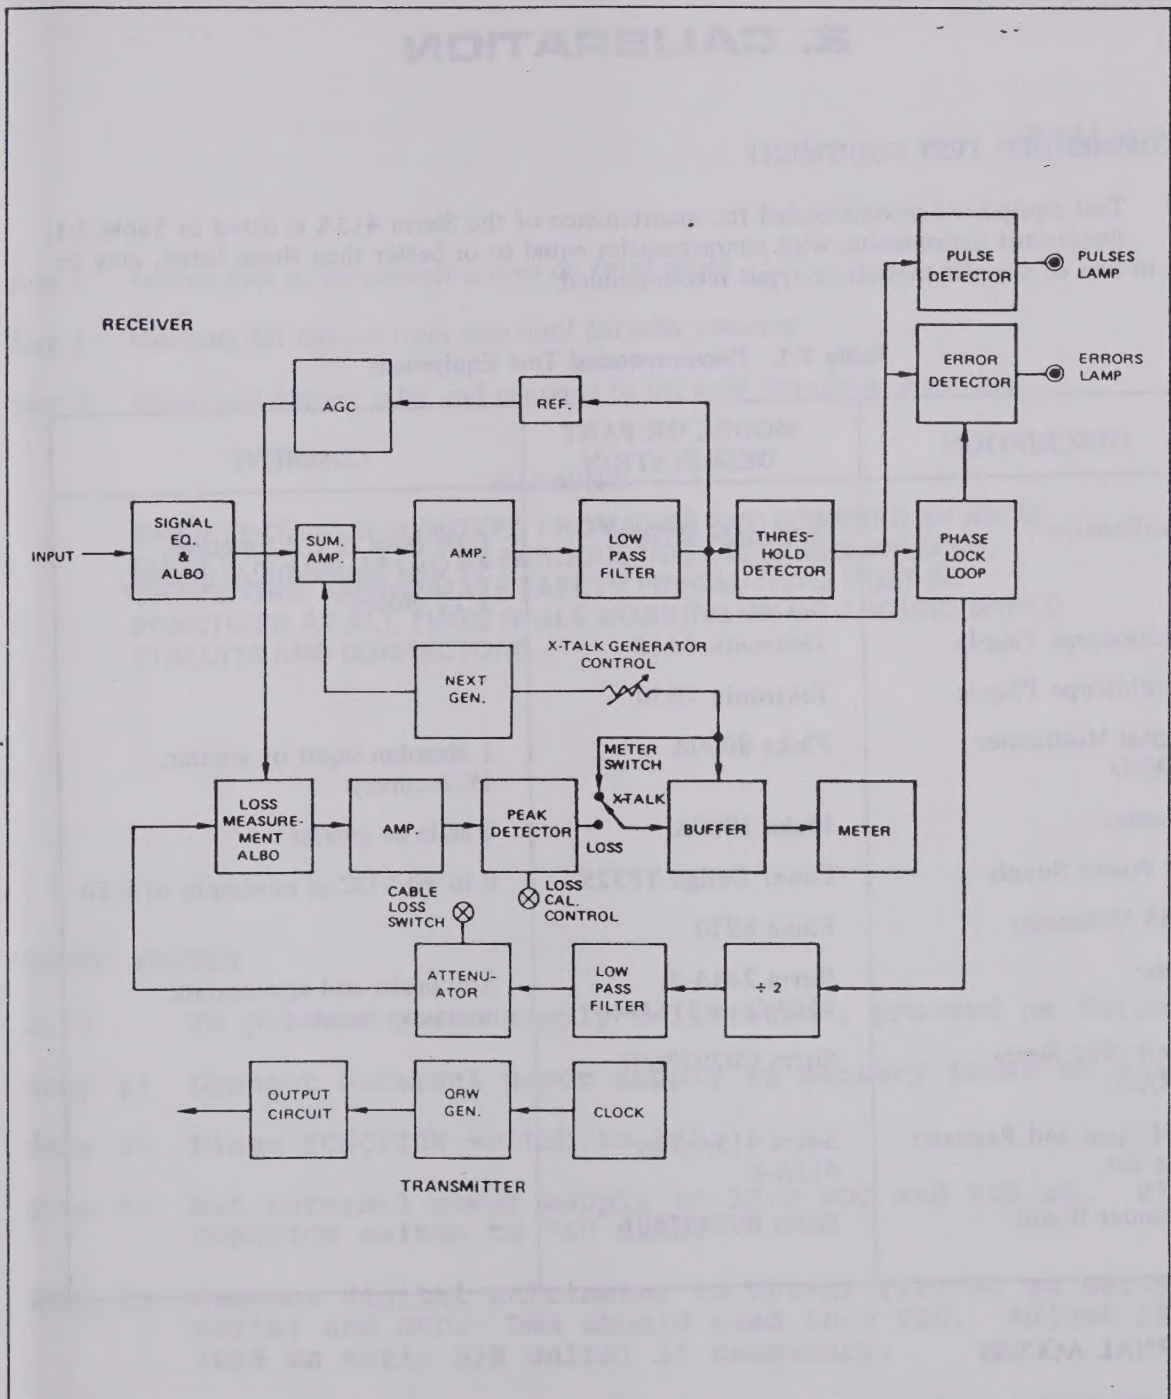

Fig. 1-2 – 413A Functional Block Diagram
1.01 The principle function of the 413A is to test the suitability of cable pairs used in PCM transmission. Two parameters are measured during the test: transmission loss and crosstalk margin. The functional block diagram (Fig. 1-2) shows that the instrument is composed of a transmitter and a receiver. To check cable pairs, one set is needed at each end of the repeater section. One set is used to transmit quasi-random bipolar pulses over the cable under test. The other set, located at the end of the line, will receive the distorted signal. A simulated NEXT (near end cross talk) interference can be added to the incoming signal without causing the ERRORS lamp to turn on steadily. Excessive loss in the cable pairs indicates that they are not suitable for PCM transmission.